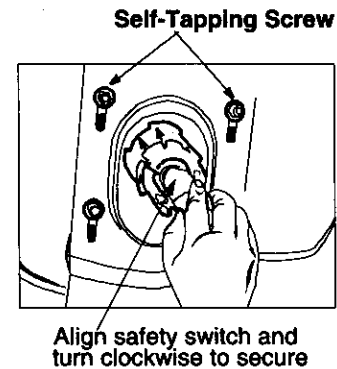

Figure 12
- Align the slots in the frame with the four holes on the bottom of the seat and secure with four self-tapping screws. See Figure 12.
- Align the tabs on the safety switch with the large cut-out on the bottom of the seat, push the safety switch in and turn clockwise to lock. See Figure 12.